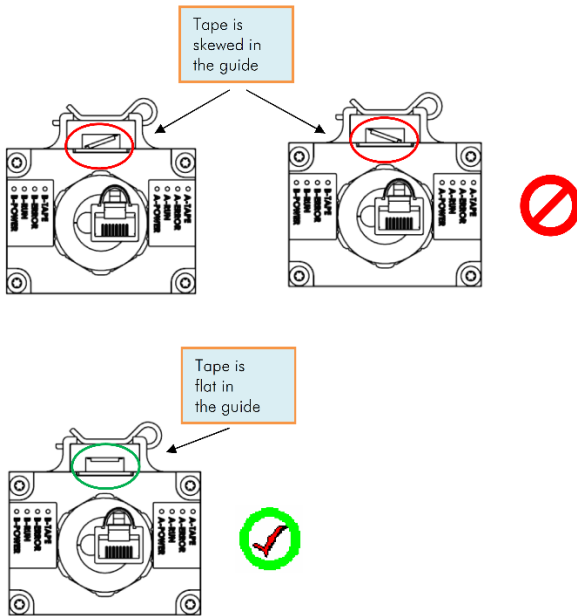
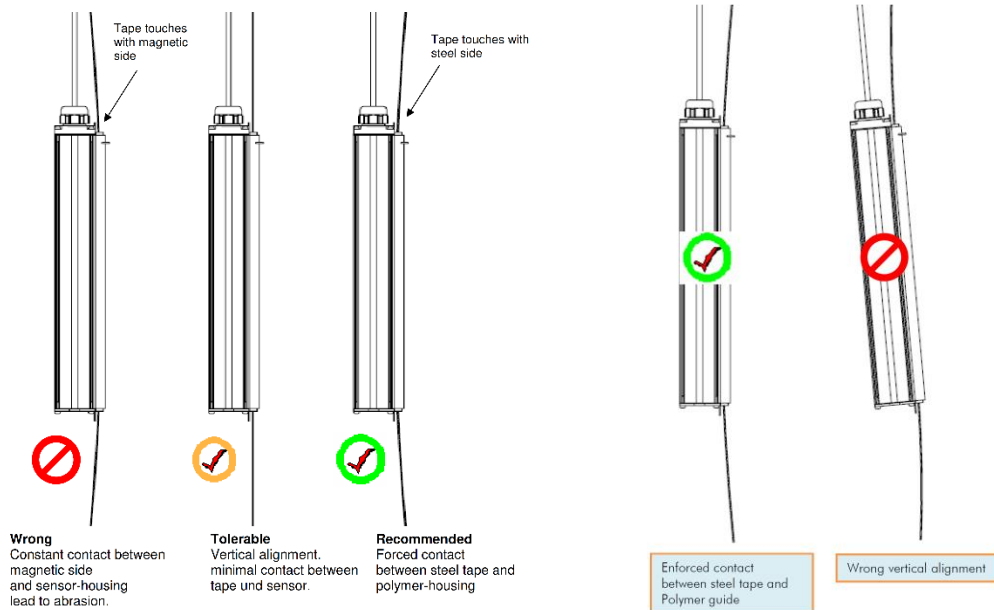

Figure 18: Angular Alignment Guideline
Figure 20: Horizontal Offset Alignment Guideline.
5. Adjust now the distance between sensor head and tape. Up to a travel height of 165ft, we recommend an offset of at least 0.6” (15mm). This will ensure steady contact between the steel side of the tape and the polymer guide of the sensor. In higher installations this distance may be increased. (See Figure 20.)
7. Check for proper alignment of tape vs. sensor. Any angular offset should be corrected. (See Figure 18-Figure 20 above.)
Run an inspection trip the entire length of the hoistway. Observe the system paying attention to the respective positions of tape and sensor. You have achieved an optimal installation if the steel side of the tape is constantly but slightly pressed against the polymer guide of the sensor. At several points in the hoistway, double-check the bottom side of the sensor head. If the sensor is tilted it may look good on top but the tape can still grind along the bottom edge of the sensor. (See Figure 20.)